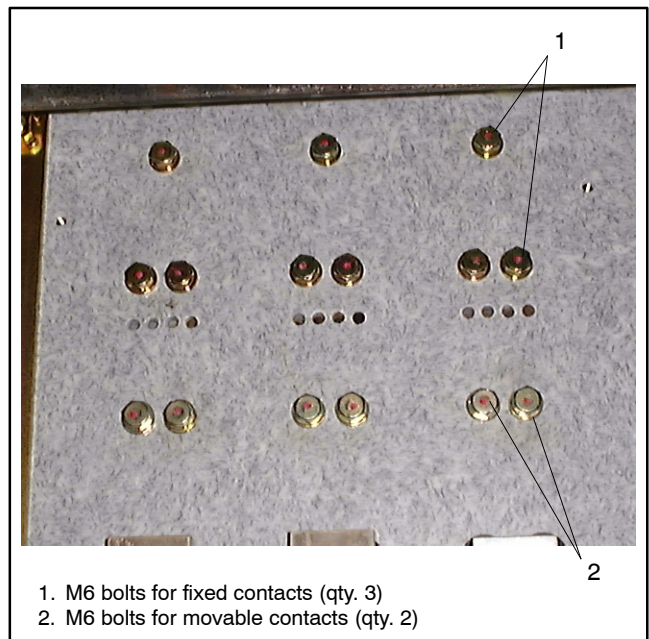

Figure 9-14 Loosen Bolts (back)
2. Loosen three (3) M6 bolts for the fixed contacts and two (2) M6 bolts for the movable contacts as shown in Figure 9-14.